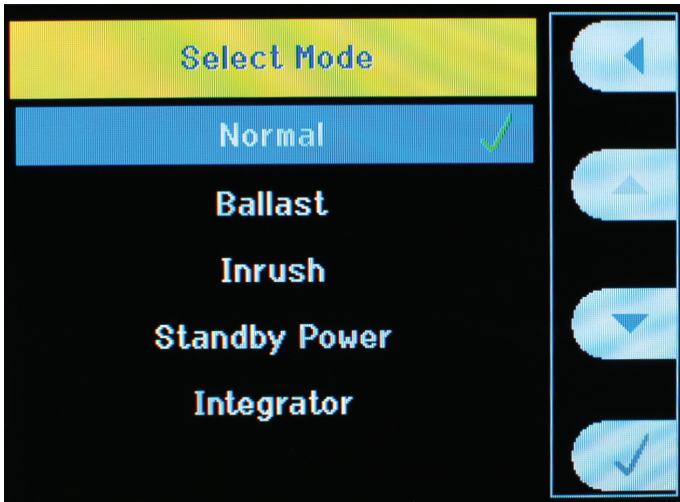

Figure 8. Select Mode Window.
- Press menu→Modes→Select Mode→check mark Normal as shown in Figure 8.